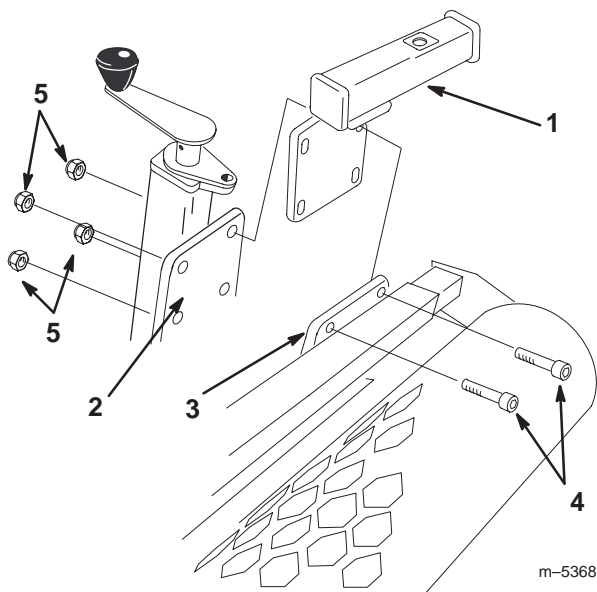

Figure 4
4. Slide the appropriate mounting bracket between the scraper mounting plate and the cultivator mounting plate on one side of the cultivator (Fig. 4).
5. Slide the 4 bolts (M10 x 35 mm) through the cultivator mounting plate, bracket, and scraper mounting plate, capping them with 4 locknuts (M10) (Fig. 4). **Do not tighten them.**